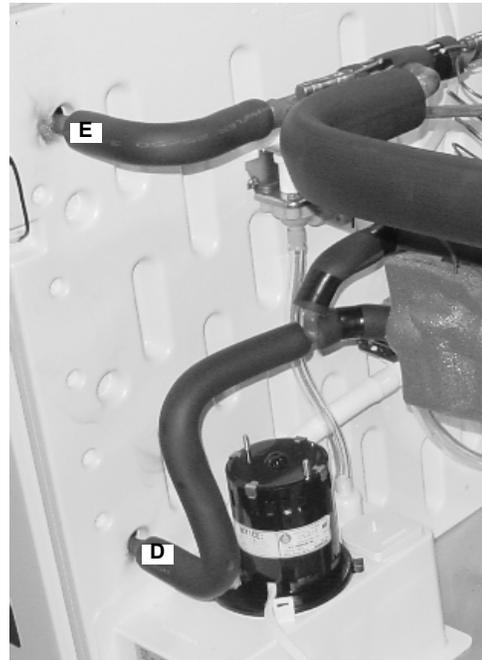

Figure 32.
37. Using clamps or other means, secure the insulation away from the joints, and braze the Heat Exchange Suction Line to the evaporator inlet (D) and outlet (E) (Figure 32).